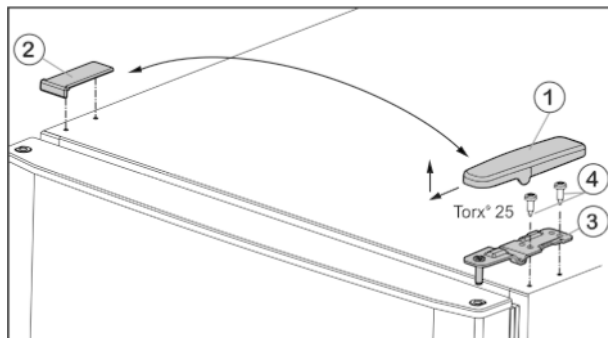

Fig. 4
- Pull off the cover Fig. 4 (1) forwards and upwards.
- Lift off the cover Fig. 4 (2).
- Unscrew the upper turn hinge Fig. 4 (3) (2x Torx® 25) Fig. 4 (4) and lift it off.
- ▶ Insert the upper turn hinge *Fig. 4 (3)* in the door on the new hinge side.
- ▶ Screw in the upper bearing block **tightly (with 4 Nm)** (2 x Torx® 25) *Fig. 4 (4)*. Use a cordless screwdriver if necessary.
- ▶ Fit the cover *Fig. 4 (1)* on the opposite side by sliding it rearwards and latching it into place.
- ▶ Press the cover *Fig. 4 (2)* on the opposite side down into place until it latches.